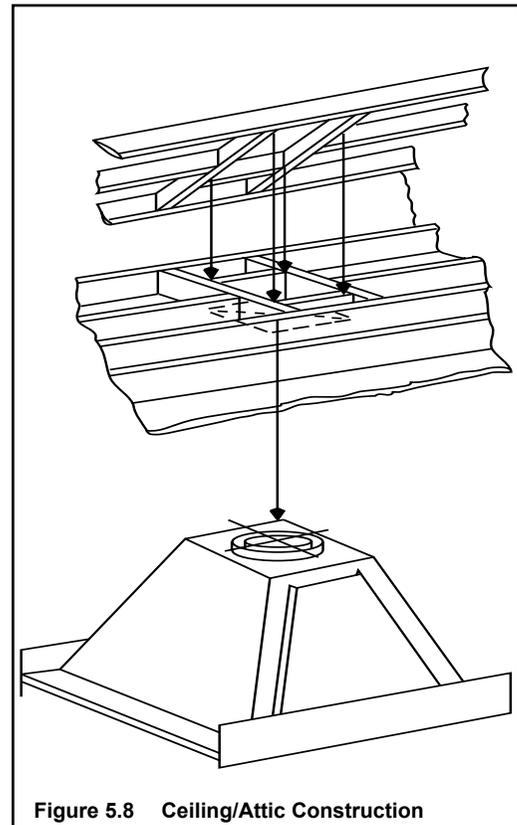

Figure 5.8 Ceiling/Attic Construction
► **Figure 5.8 Install Attic Insulation Shield (firestop below ceiling)**
- Refer to Figure 5.8.